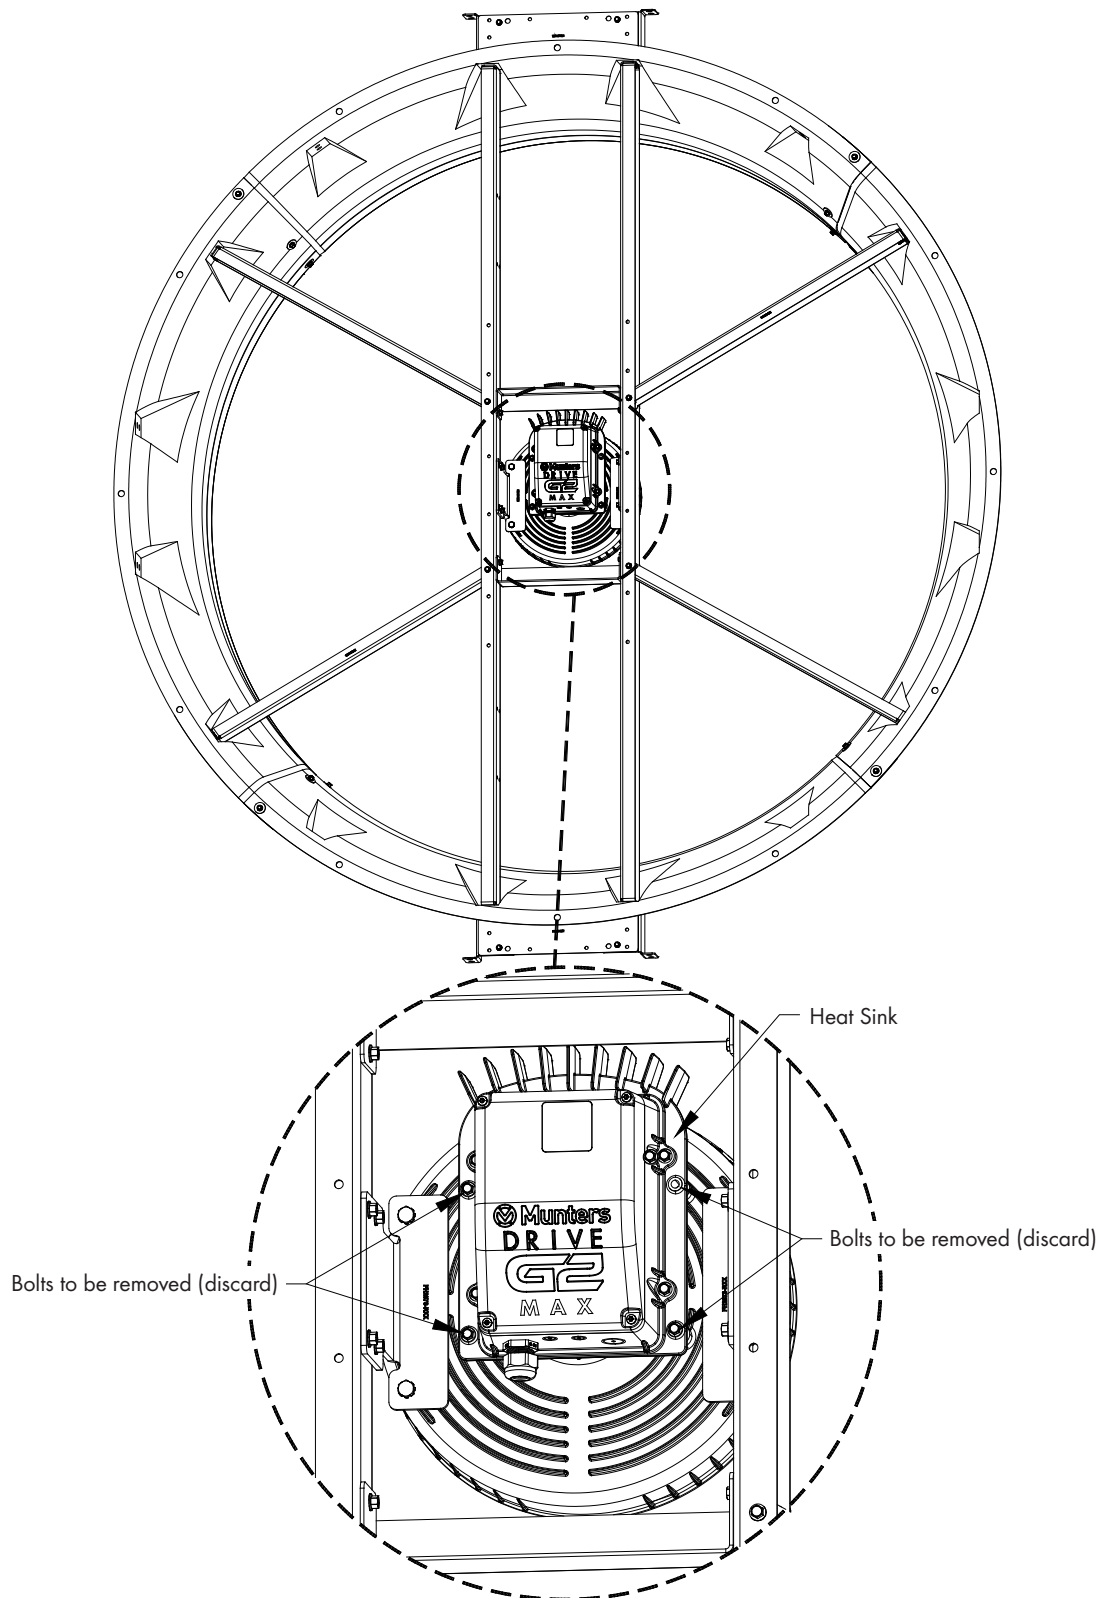

Figure 19
Remove the (4) bolts holding the Heat Sink with Control Box to the back of the Munters Drive Motor and carefully set the Heat Sink with Control Box in fan. See Figure 19. Discard the (4) bolts removed.